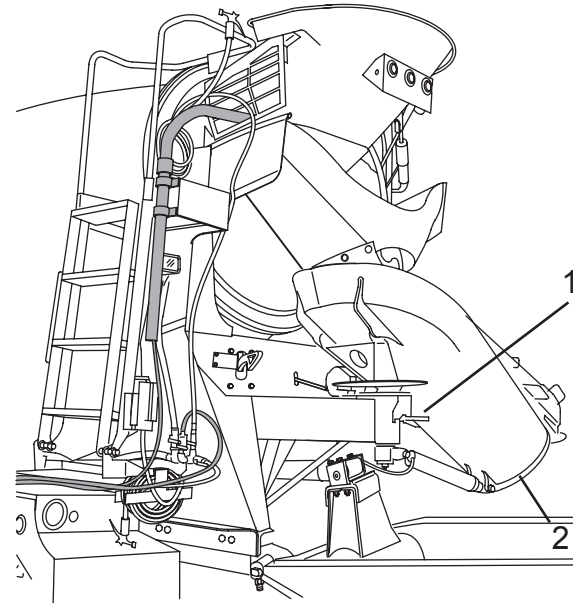

Figure 29
2. While holding the chute, pull down on the lever (Figure 29, Item 1) and move it to the right or left until the lever is seated in one of the lock positions.
3. Move the main chute (Figure 29, Item 2) to the desired position, and while holding the chute, move the lever to the center. Make sure the lever pin is fully seated into one of the holes in the chute plate before releasing the chute. Move the chute from side to side as needed to align the pin and hole.